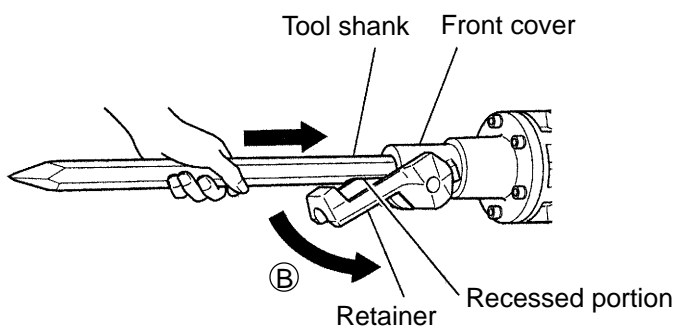
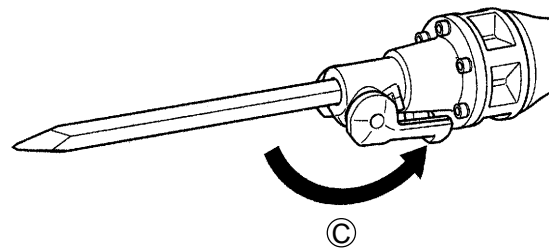

Fig. 11
Fig. 12
- (2) Mounting standard hex. shank tool and retaining groove tool without collar
Lower the retainer in ② direction and insert the tool shank into the hexagonal hole of the front cover as far as it will go facing the recessed portion of the tool shank to the retainer (Fig. 11). Turn the retainer in ③ direction to fix the tool shank (Fig. 12).